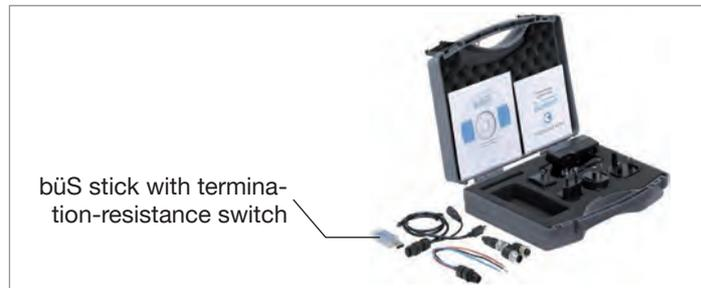

Fig. 22: USB-bÜS-interface set with article number 00772426
- Buy the USB-bÜS-interface set with article number 00772426 from Bürkert. See Fig. 22.